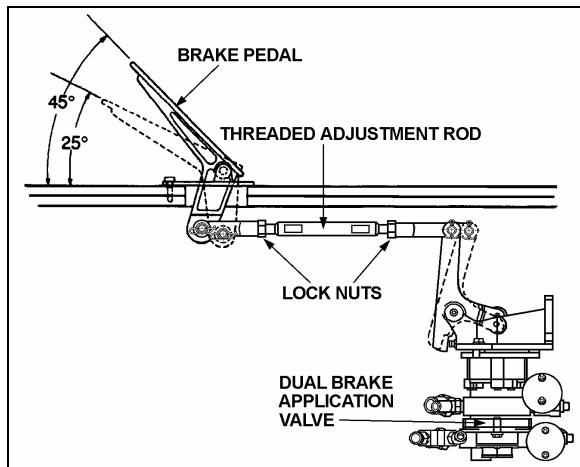

FIGURE 12: BRAKE PEDAL ADJUSTMENT 12208
The E-10P dual brake valve is a floor mounted, foot-operated type brake valve with two separate supply and delivery circuits. This valve is located in the front service compartment (Fig. 12).
1. Replace the linkage, loosen threaded rod lock nuts and screw or unscrew the threaded adjustment rod in order to obtain a 45° brake pedal inclination (Fig. 12).